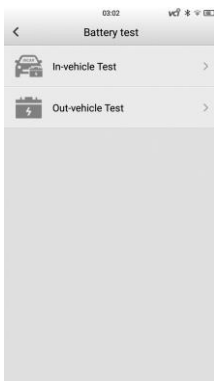

Figure 6-4 Battery Test Screen
2. Select **Out-vehicle Test** (see Figure 6-4 Battery Test Screen).